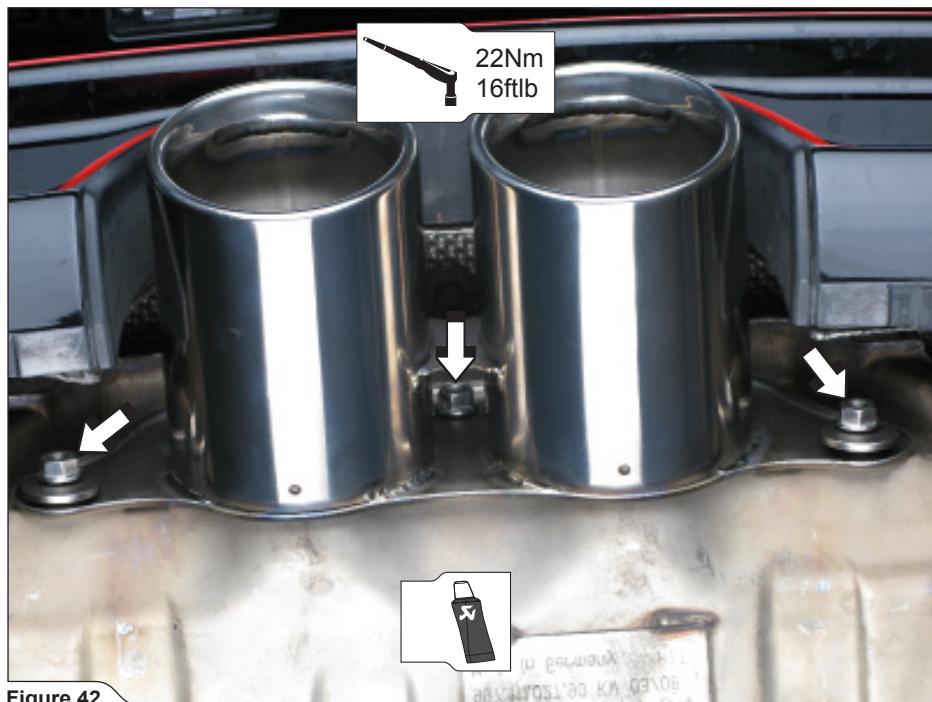

Figure 42
24. **For Tail Pipe:** position the Akrapovič tail pipe piece onto the stock muffler; correctly assemble and hand tighten the three M8 nuts and two centering washers. Center the tail piece in respect to rear bumper and tighten the nuts to a specified torque (**Figure 42**).